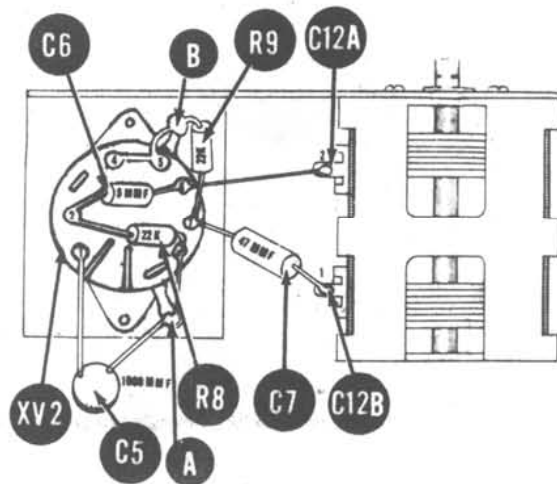

Fig. 4
- () Fig. 4. Connect a 22K Ω resistor, R8 from XV2-2 (C) to XV2-8 (C).
- () Fig. 4. Connect a short length of bare wire from XV2-8 (S) to ground lug A (C).
- () Fig. 4. Connect a 1000 mmf capacitor C5 from XV2-1 (C) to ground lug A (S).
- () Fig. 4. Connect the 5 mmf capacitor C6 from XV2-2 (S) to XV2-6 (C).
- () Fig. 4. Connect a short length of bare wire from XV2-6 (S) to C12A (C).
- () Fig. 4. Connect a short length of bare wire from XV2-4 (S), thru XV2-5 (S) to ground lug B (C).
- () Fig. 4. Connect the other 22K resistor R9 from ground lug B (S) to XV2-7 (C).
- () Fig. 4. Connect the 47 mmf capacitor C7 from XV2-7 (S) to C12B (C).